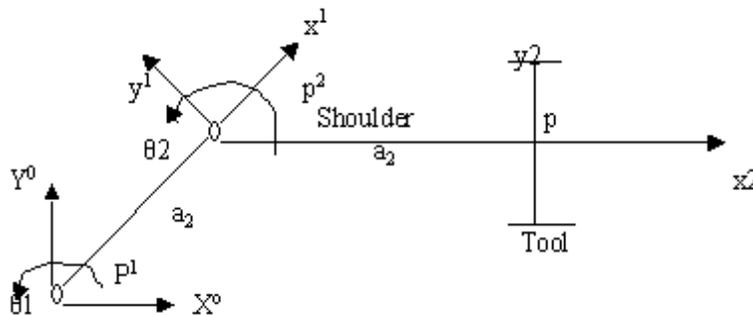

Figure 1:
5. Find the manipulator jacobian matrix $J(q)$ of the two-axis planer articulated robot shown in figure1. [16]